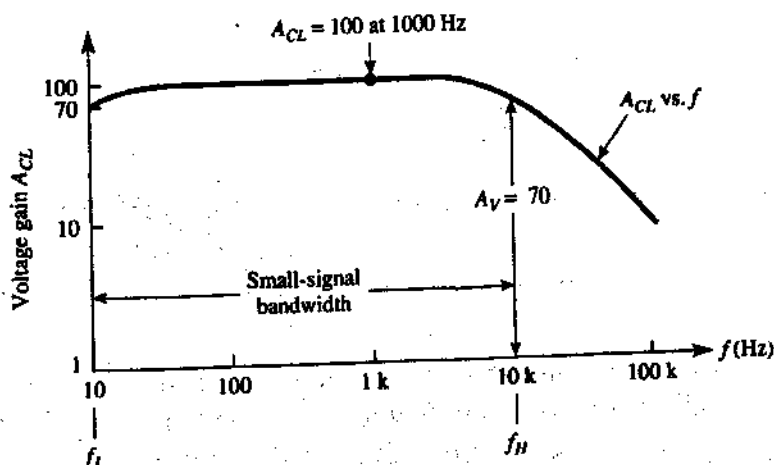

FIGURE 10-3 Small-signal bandwidth.
The useful frequency range of any amplifier (closed- or open-loop) is defined by a high-frequency limit  $f_H$  and a low-frequency limit  $f_L$ . At  $f_L$  and  $f_H$  the voltage gain is down to 0.707 times its maximum value in the middle of the useful frequency range. In terms of decibels, the voltage gain is down 3 dB at both  $f_L$  and  $f_H$ . These statements are summarized on the general frequency response curve in Fig. 10-3 and in Appendix 1.
**Laboratory procedure.** The frequency-response curve of Fig. 10-3 would have been obtained in the following manner: